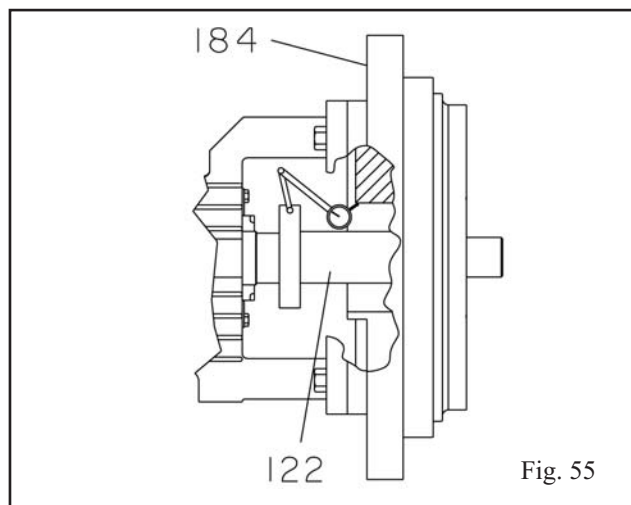

Fig. 55
- a. Mount dial indicator on shaft (122) or shaft sleeve (126) as shown in Fig. 55.
- b. Rotate shaft (122) so indicator rides along the seal chamber lock (register) for 360 degrees. If total indicator reading is greater than 0.125 mm (.005 in.), determine cause and correct.